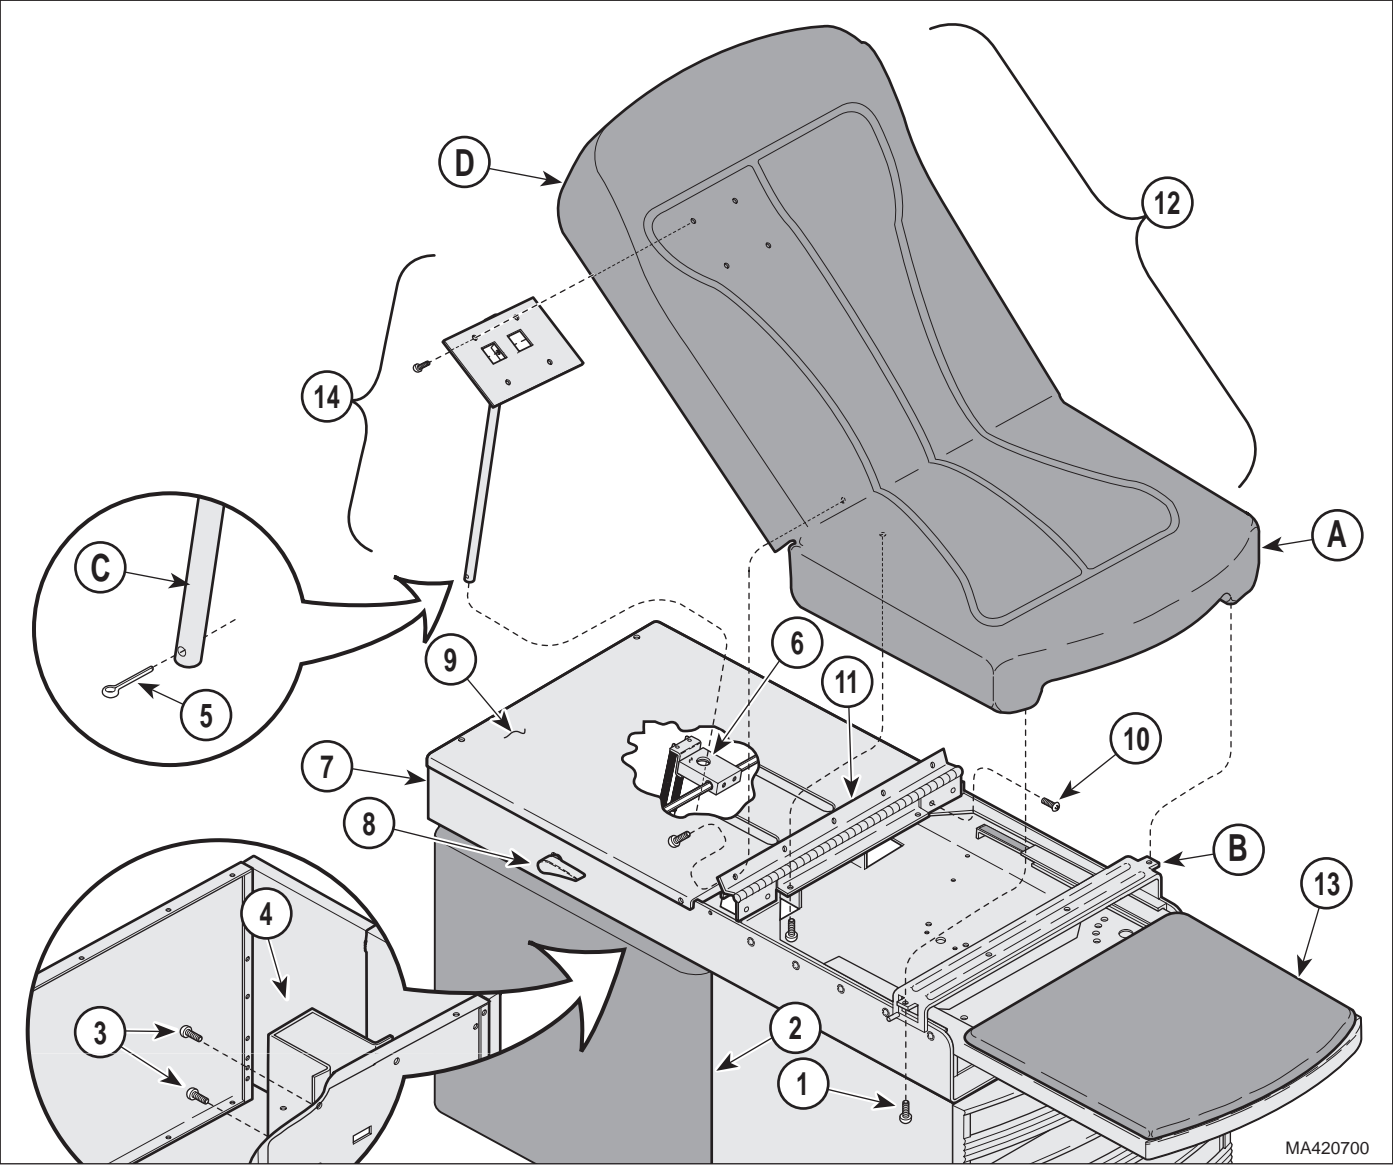

Figure 4-3. Upholstery Removal / Installation
- (2) For tables without Pelvic Tilt, remove the two screws (1, Figure 4-3) that secure the seat section (A) to the upper wrap cross member (B).
- (3) Open the doors (2) and remove the four screws (3) that hold the rod upper cover (4) in place and remove the cover.
- (4) Remove the cotter pin (5) from the back support rod (C).
- (1) Install the top hinge (11, Figure 4-3) on the new upholstery assembly.